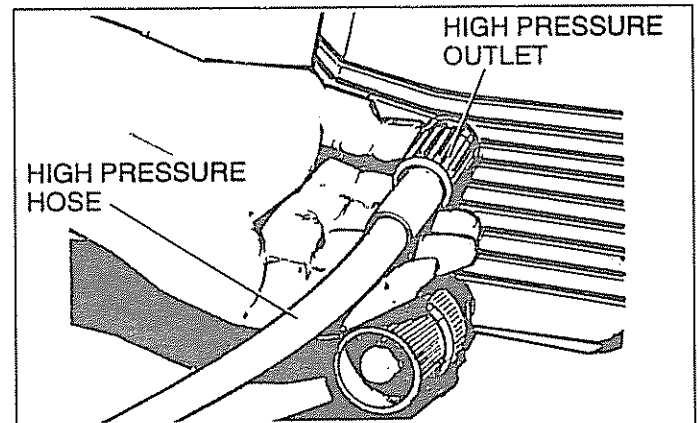

FIG. 3
- To attach the high pressure hose to the unit (Fig. 3) push the "O"-ring connector of the hose into the high pressure outlet and then hand tighten until secure.